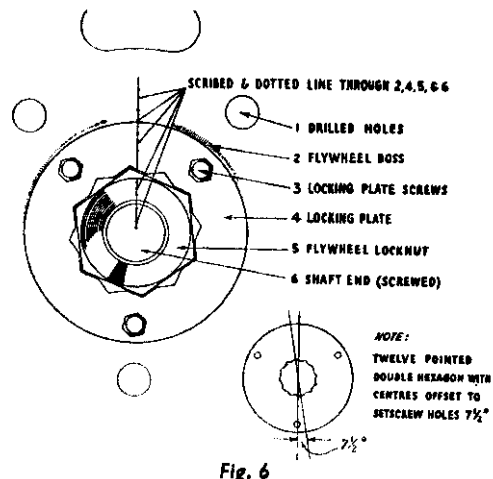

Fig. 6
The inset on Fig. 6 shows the locking plate machining, by means of which very little movement of the locknut is required to put the set-screw holes in line.
- iv. Scribe a line through the parts as shown in Fig. 6, i.e., 2, 4, 5 and 6.
- v. Insert key, replace the wheel and tighten the locknut until all lines coincide, see Fig. 6.